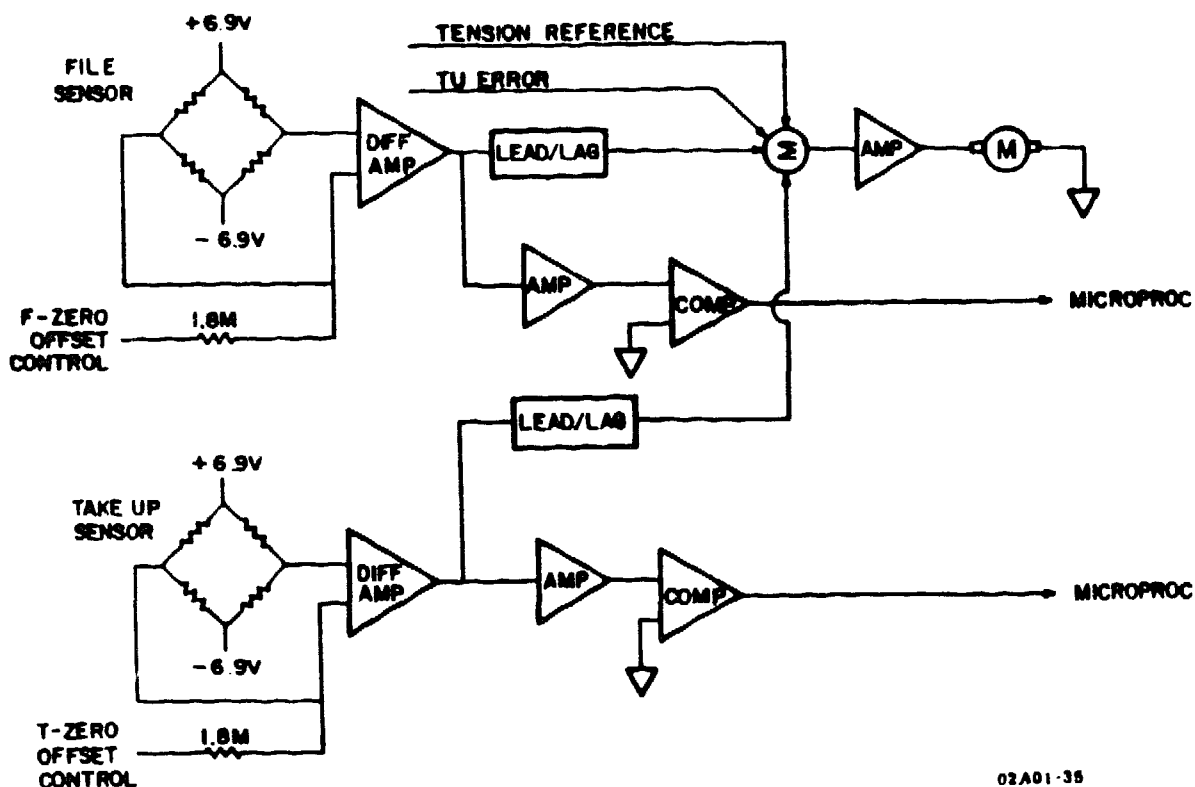

Figure 4-14. TENSION SERVO - SIMPLIFIED
4.5.4 Tension Servo (Figure 4-14)